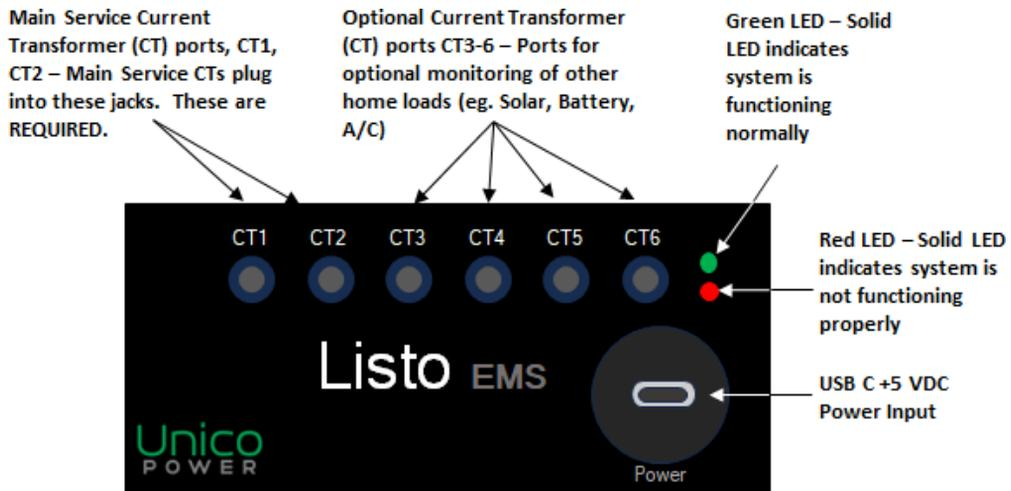

Figure 2 - Listo Controller Front Faceplate
The controller front panel, shown in Figure 2, contains two (2) status lights and six (6) Current Transformer input ports, labeled CT1 to CT6. CT1 and CT2 are required for monitoring the main service current levels. If left unplugged the EV chargers will default to the minimum set current (failsafe current).